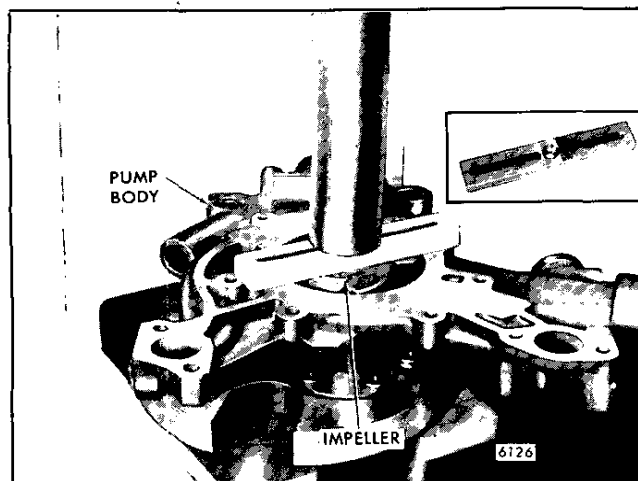

Fig. 10 - Installing Water Pump Impeller Using Tool J 29190-A
8. Support the shaft on the pulley hub end and press the impeller (using its inner hub) on the shaft with tool J 29190-A. Tool J 29190-A is flat on one side and has been machined on the other side to properly position the impeller on the shaft and within the body (Fig. 10).